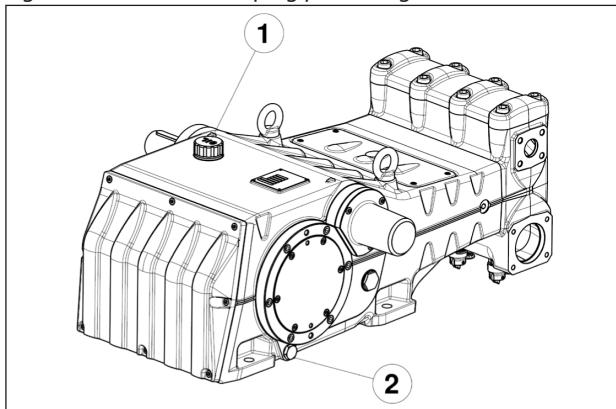

Fig. 1
To remove oil, it is necessary to remove the oil filler cap pos. ①, Fig. 1 and then the drain plug pos. ②, Fig. 1.